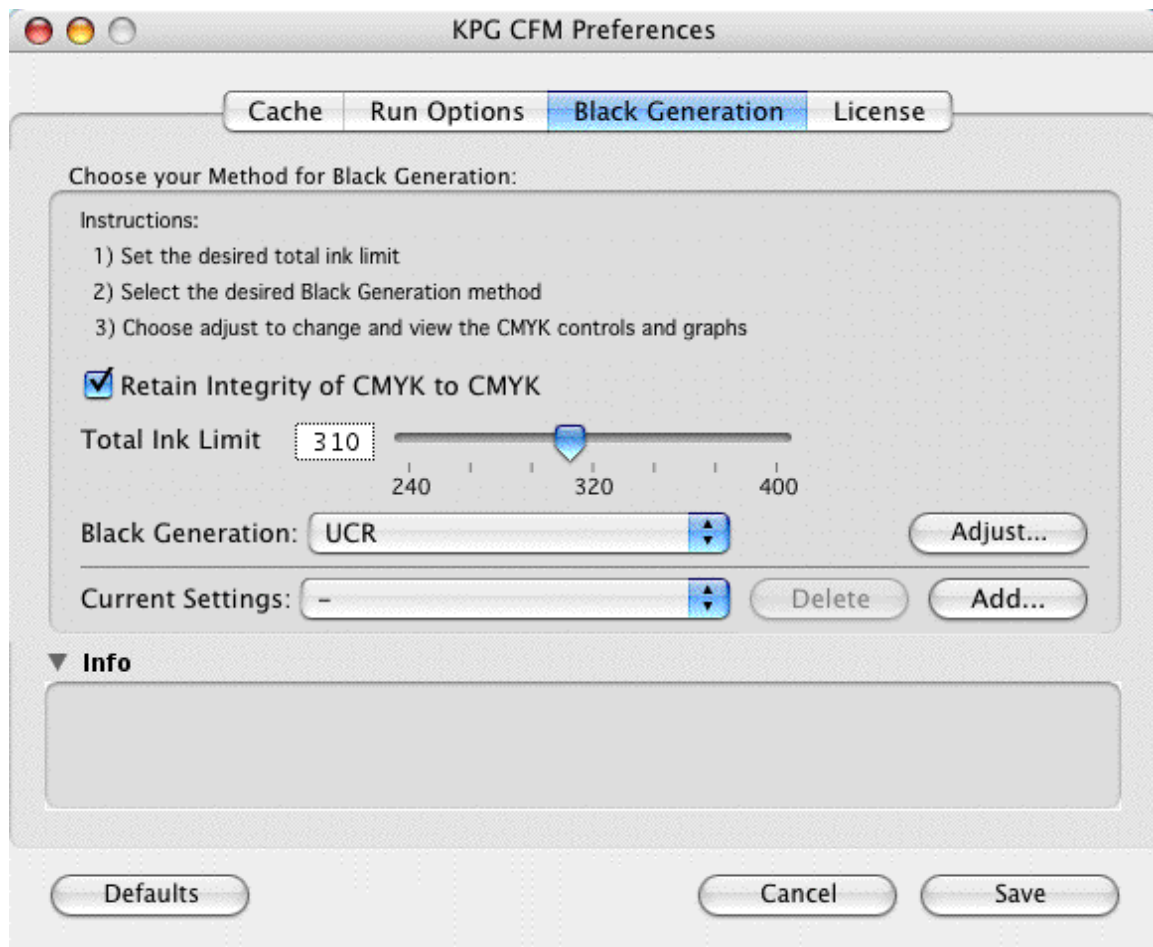

Figure 10. Black Generation Tab
1. Set the **Total Ink Limit**. (See Figure 10.) Enter a number and press **Tab** or use the slider. The default is 310%. In other words, the total of all four inks (CMYK) is 310%.
1. Set the **Total Ink Limit**. (See Figure 10.)